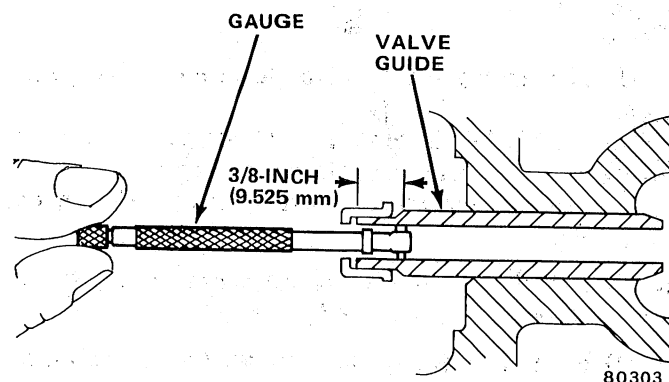

Fig. 1B-51 Valve Stem-to-Guide Clearance Measurement with Telescoping Gauge
(1) Remove valve from head and clean valve guide bore with solvent and bristle brush.
(2) Insert telescoping gauge into valve guide bore approximately 3/8 inch (9.525 mm) from valve spring side of head (fig. 1B-51) with contacts crosswise to cylinder head. Measure telescoping gauge contacts with micrometer.
(3) Repeat measurement with contacts lengthwise to cylinder head.